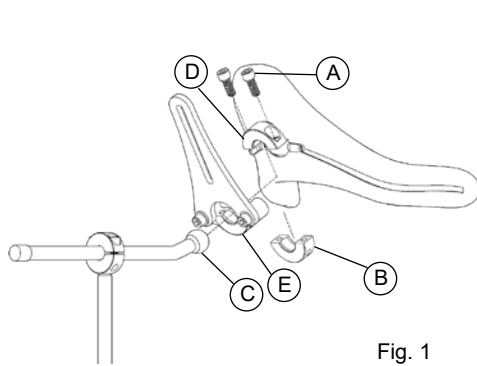

Fig. 1
1. Remove bolts (Fig. 1, A) and discard bottom collar half (Fig. 1, B) of pad.
2. Evenly clamp the horizontal ball (Fig. 1, C) between the pad collar half (Fig. 1, D) and anterior support interface (Fig. 1, E).